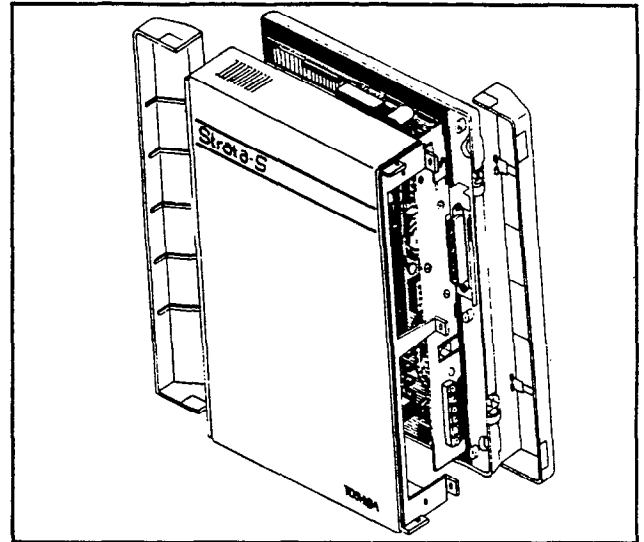

FIGURE 2—MKSU CABINET
02.02 The cabinet consists of a base, cover, and side covers (Figure 2)